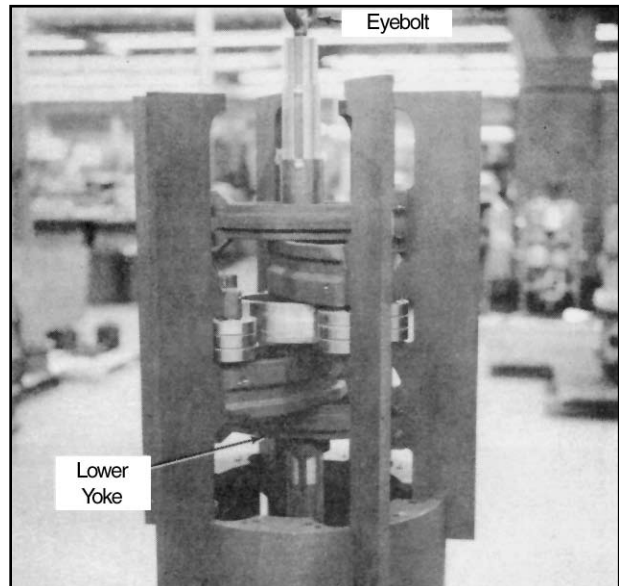

Figure 32
5. Insert an eyebolt into the rotor shaft (nut with loop for the JB10) and raise shaft and blade assembly to approximate height as shown in Figure 32.
7. Remove the lower yoke from blade assembly, Figure 32.